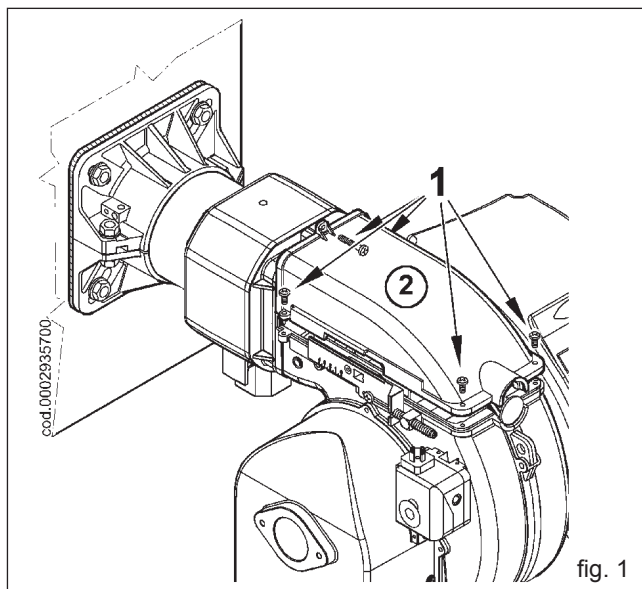

fig. 1
- Loosen the screws 1 and remove the lid 2 (figure 1).
- Following the instructions detailed in the "Maintenance" paragraph, extract the mixer assembly and remove the screw (1) which connect the unit's forward movement rod (2) to the gas delivery pipe (3).
- Remove the screw (5) which connects the gas mixer (6) to the pipe (figure 1).
- Turn the bend coupling through 180° (4) and the mixer (6), in such a way that the inlet gas is turned upwards (figure 1). Again fix the mixer and the unit's forward movement rod to the gas delivery pipe.